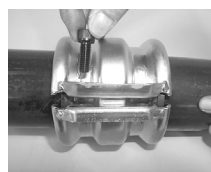
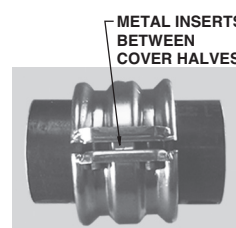

Fig. 12
Fig. 13
Gasket inserts must be positioned between the cover halves to prevent joint pressure failure and/or damage to equipment or possible injury to plant personnel (see Fig. 13).
13. Install bolts, lock washers and nuts; partially tighten the coupling bolts to ensure proper seating of the gasket (see Fig. 12). Ensure the metal insert on the gasket is correctly positioned between the coupling covers to protect against gasket failure (see Fig. 13).